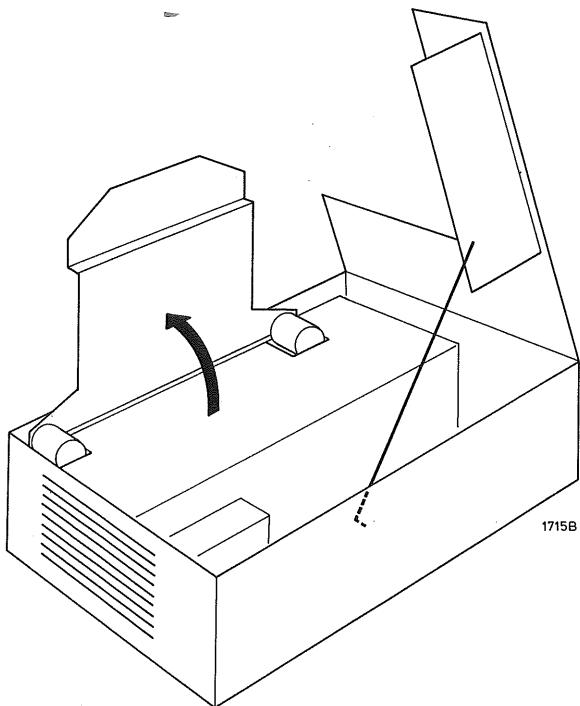

Fig. 3
- After removing the 5 screws D the complete tape deck can be placed on end in the cabinet (see Fig. 3). For this purpose recesses have been made in the loudspeaker enclosures in which the two winding motors can rest. The tape deck now also remains connected to the amplifier board via a wire harness so that the recorder remains operative. After unplugging the plug on one side of the tape deck the complete tape deck can be lifted out of the cabinet.